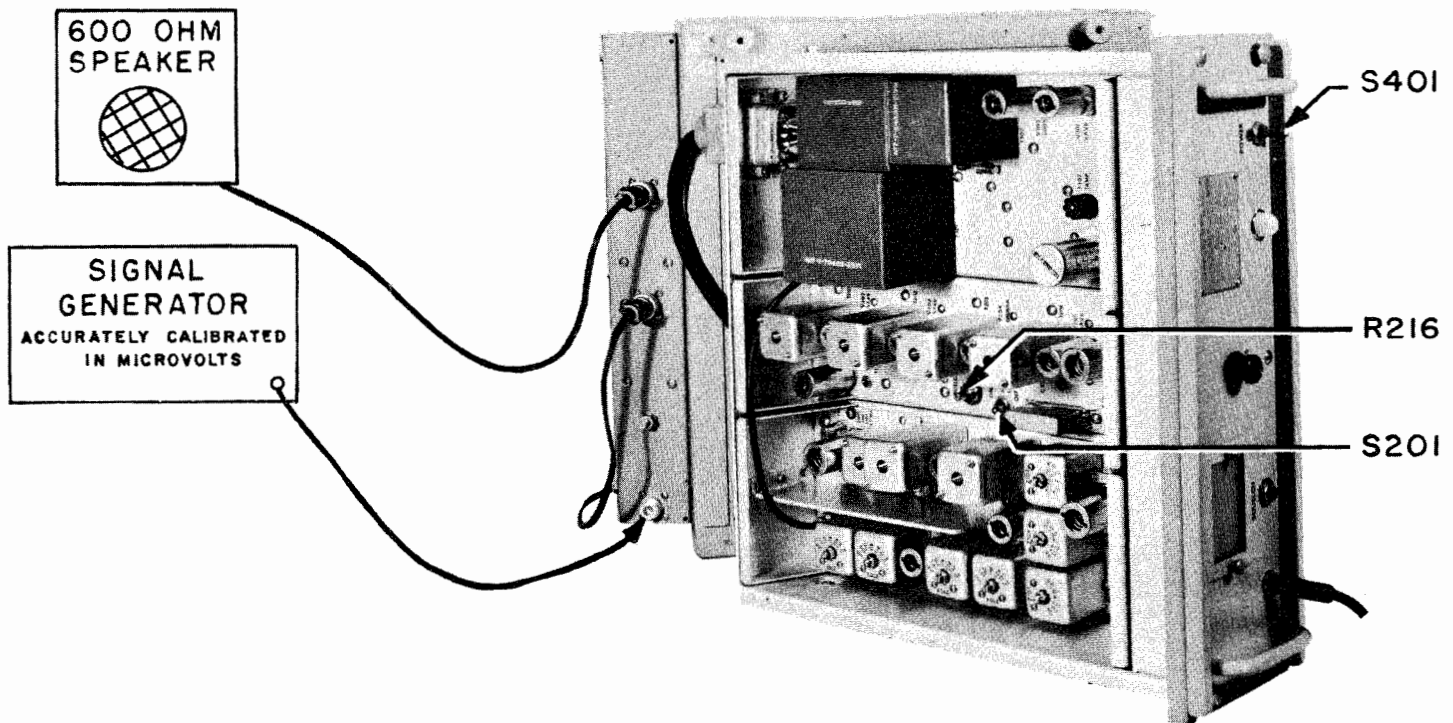

Figure 7-9. Squelch Adjustment Test Set-up
k. SQUELCH ADJUSTMENT.—The SQUELCH threshold control R216, located on the IF chassis assembly, may be adjusted to any degree of squelch desired, from a completely unsquelched condition, to a point where a signal of over 100 microvolts is required to open the squelch. In SECTION 3, paragraph 4 f, a simplified method of setting this control for its most sensitive point is described. Should circumstances require that the squelch open at some definite signal strength, a signal generator with its output accurately calibrated in microvolts is required, and the following procedure should be followed. (See figure 7-9.)